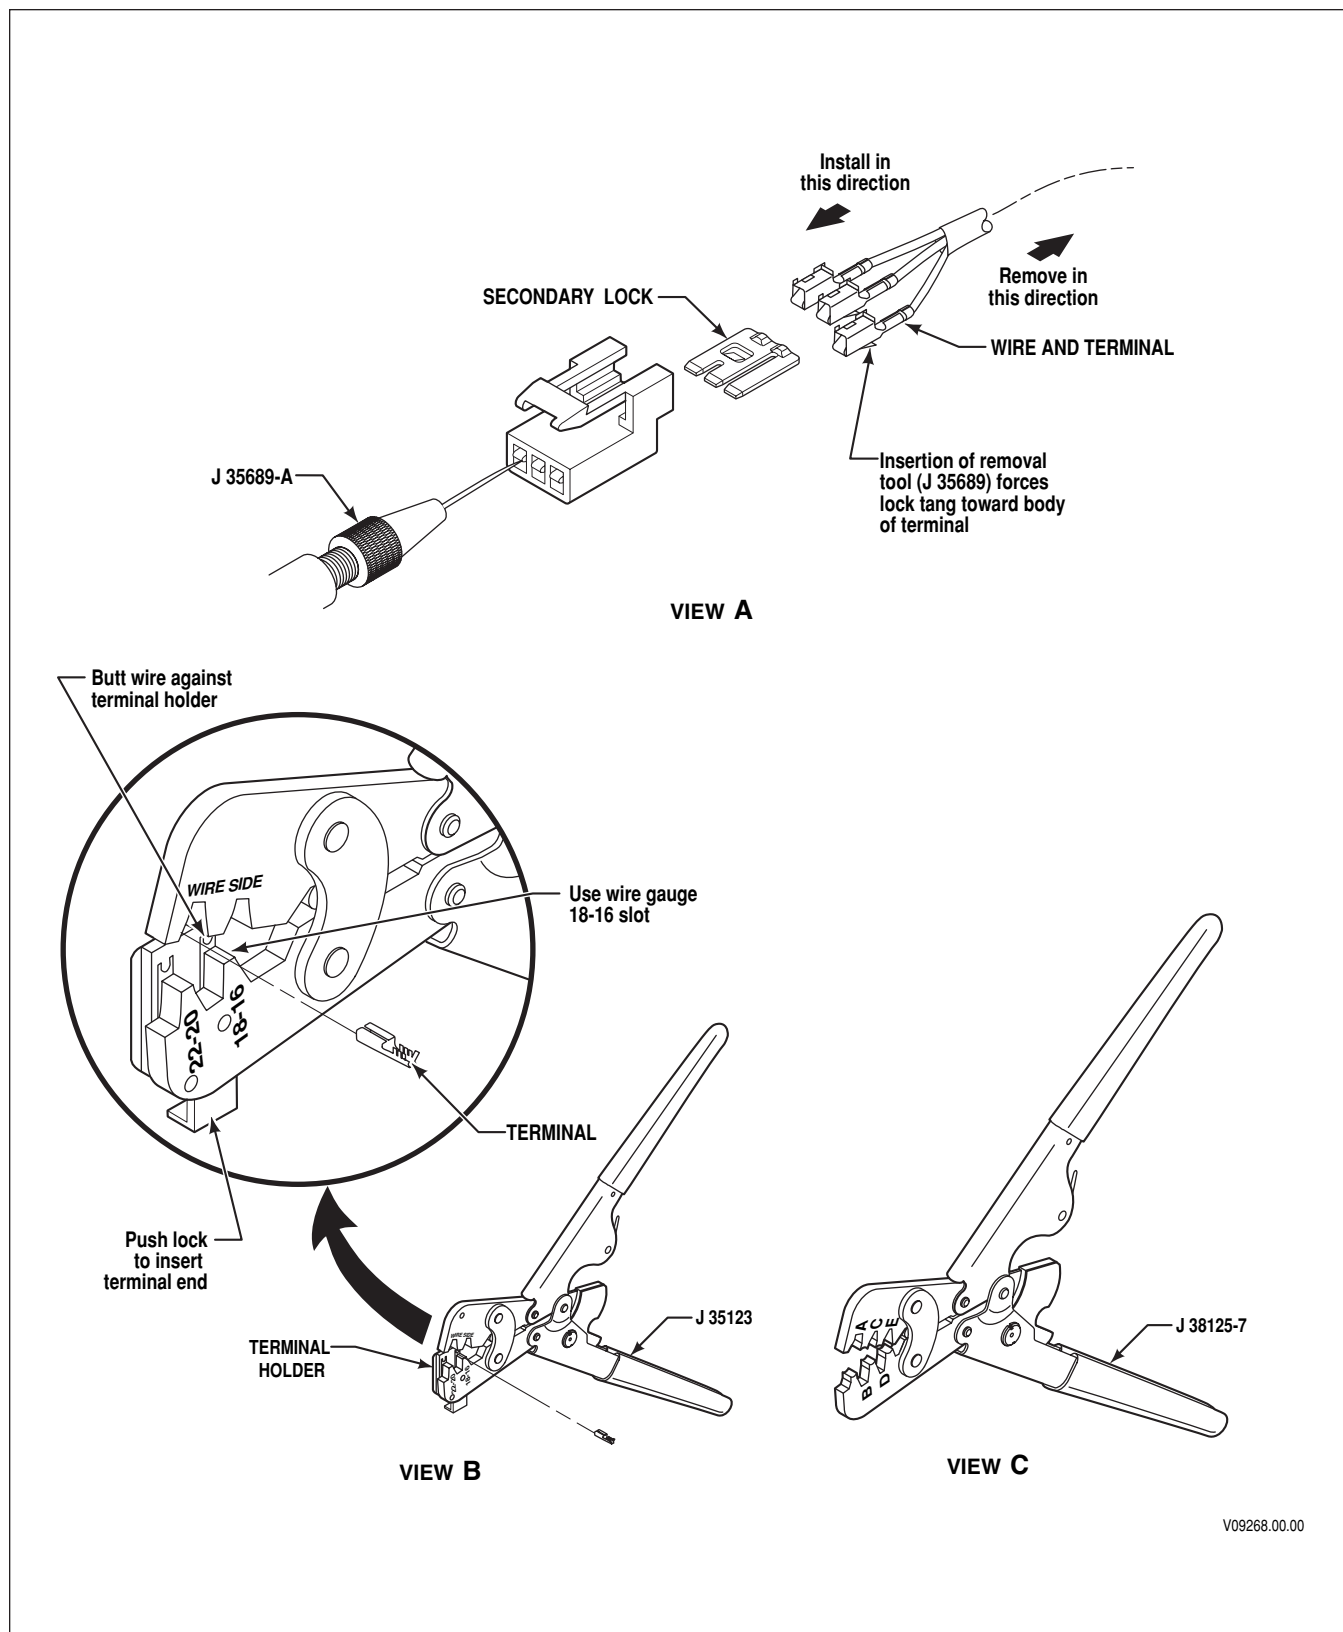

Figure E-7. Delphi-Packard Metri-Pack 150 Series Connectors Push-To-Seat (Oil Level Sensor)
2. Insert needle end of terminal remover J 35689-A into the small notch between the connector and the terminal to be removed (Figure E-7, View A). Push the lock tang toward the terminal.
2. Place core crimp portion of terminal on bed of anvil “E” and squeeze crimper enough to keep terminal from dropping (Figure E-7, View C).